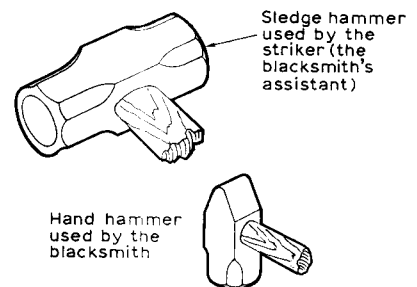

Fig. 4.112
**Forging tools.** Fig. 4.112 illustrates two types of hammer used in forging.